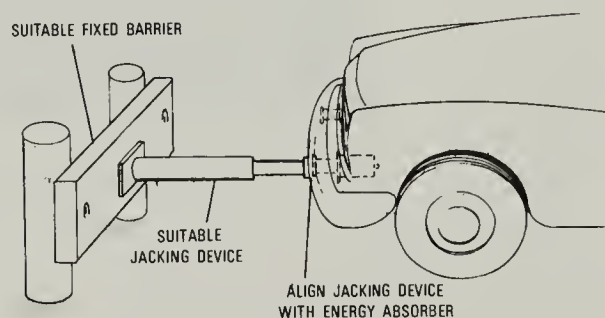

Fig. 6-5. Setup is shown for testing the operation of a General Motors' energy absorber.
3. Align a hydraulic jack with energy absorbing unit to be tested, Fig. 6-5.